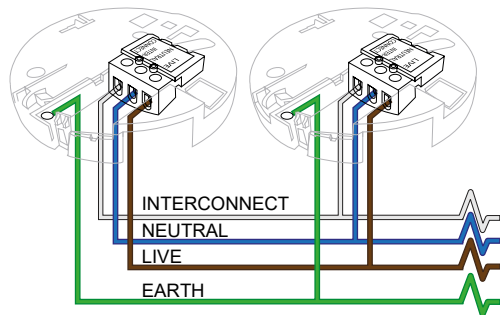

FIGURE 5 – WIRING & INTERCONNECT FACILITY
- Find and remove the key lock from the Mounting Base. Keep this for replacing after install. See Figure 5